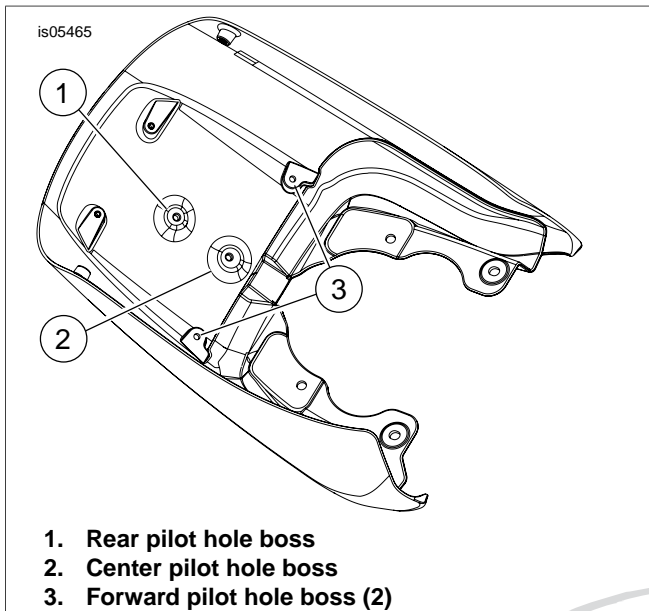

Figure 2. Inside of Fender
1. See Figure 2. Apply masking tape to the outside painted surface of the fender at hole locations (2 and 3). This will protect the painted surface during the drilling operation.
See Figure 2. If luggage rack has been previously installed, only hole (2) needs to be drilled.
1. See Figure 2. Apply masking tape to the outside painted surface of the fender at hole locations (1, 2 and 3). This will protect the painted surface during the drilling operation.